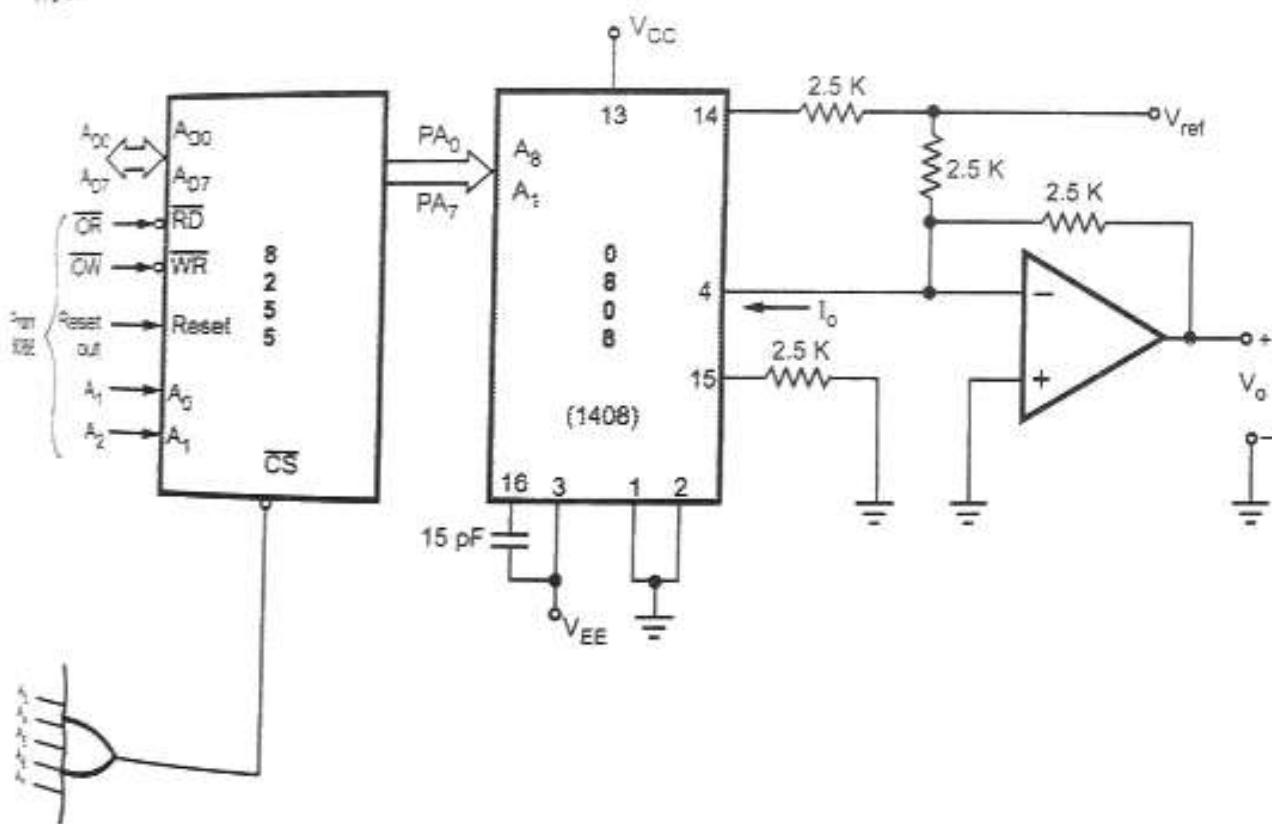

Fig. 3.5.1 Interfacing of 0808 with microprocessor
- Fig. 3.5.1 (See Fig. 3.5.1 on next page) shows the interfacing of DAC 0808 with microprocessor 8086. Here, programmable peripheral interface, 8255 is used as parallel port to send the digital data to DAC.